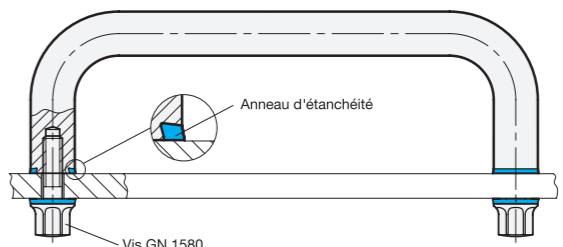

fig. 2
- The seals must be inspected for damage, cracks and embrittlement at regular intervals; we recommend daily. Defective seals must be replaced (Fig. 2). Use only the special sealing rings in the appropriate size (GN 7600).